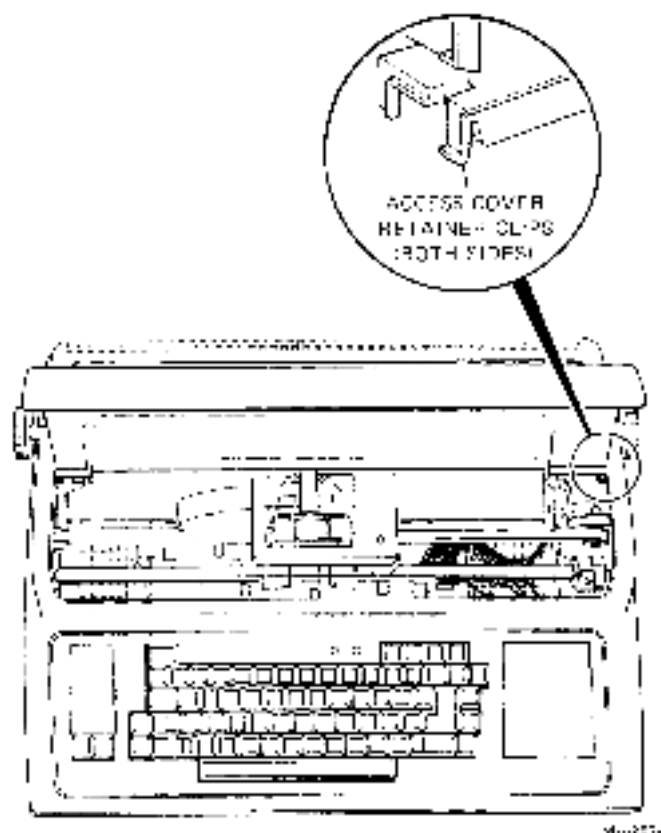

Figure 7-2 Access Cover Removal
6. Remove the access cover by opening it and pressing the two access cover retainer clips at the same time (Figure 7-2). Lift the access cover straight up.
4. Remove the access cover by opening it and pressing the two access cover retainer clips at the same time (Figure 7-2). Lift the access cover straight up.